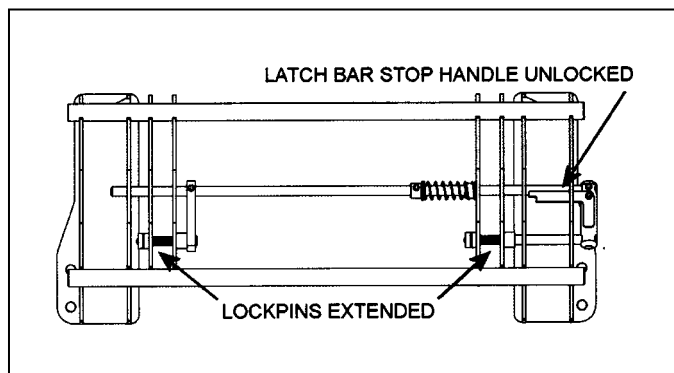

Figure 3. Latch Bar Stop Handle - Unlocked
7. Release the latch bar stop and push lock pin mechanism to secure implement to adapter. The lockpins must be completely extended into the retaining bushings provided on the adapter. Figure 3.